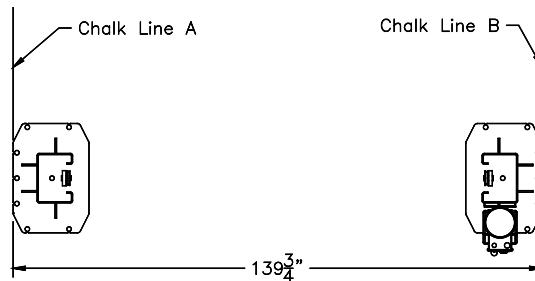

Fig 1 – Column Layout
- 3) Using the Overall Width (C) Dimension from **Fig 1**, chalk two parallel lines on the floor within 1/8" tolerance. Erect both column assemblies. Align the base plate edges to the chalk lines.
- 6) Recheck "Inside of Columns" dimension, **Fig 1**. Drill the anchor holes using the base plate as a template. Drill through the floor if possible or to a depth of 5 inches minimum.